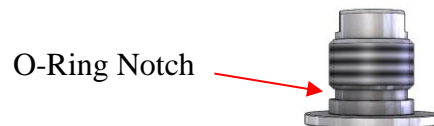

Figure 36: Center Bushing O-Ring Notch
8. Carefully place the center bushing o-ring onto the center bushing making sure not to cut the o-ring. The o-ring should reside in a notch on the center bushing. See Figure 36.
3. Carefully place the center bushing o-ring onto the center bushing making sure not to cut the o-ring. The o-ring should reside in a notch on the center bushing. See Figure 36.